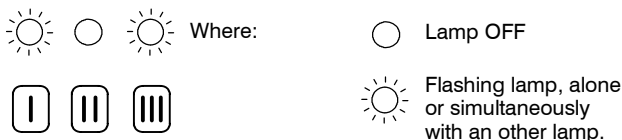

Fig. 45
- 6 Keep pressed the reset button C for about 5 seconds until the lock-out signal lamp D is switched OFF. The boiler runs in c.h. mode and the lamps E give the indication as in Fig. 45.